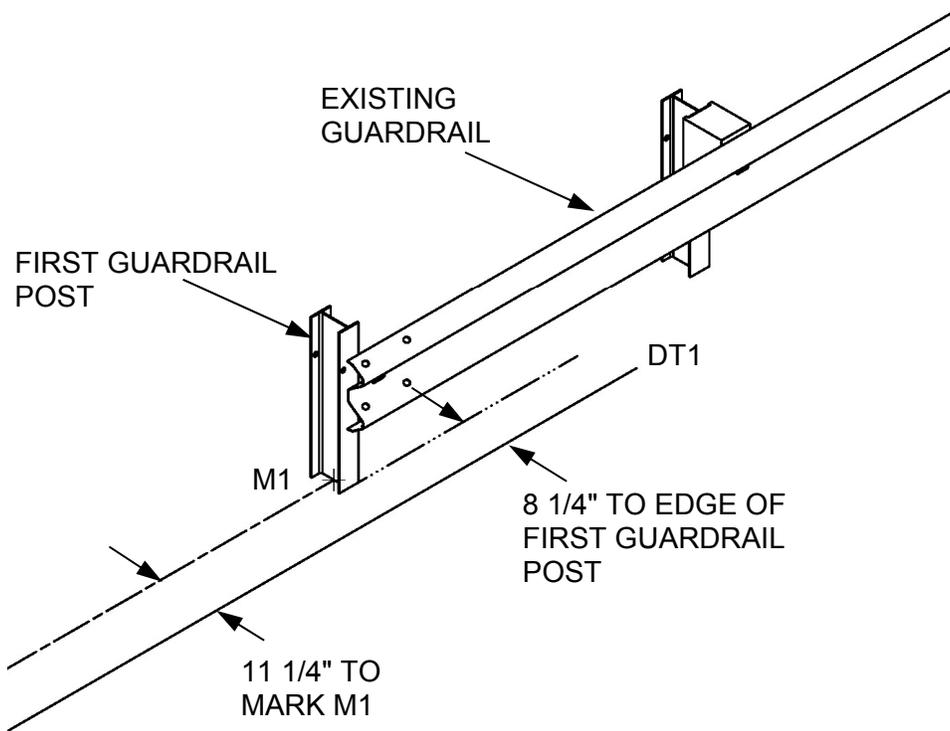

Figure 3 - Determining Post Location
- 1.2 A new guardrail post must be driven into the ground at the end of the guardrail panel. The edge of this new guardrail post must be offset from the datum line DT1 towards the existing guardrail by a distance of 8 1/4" (this offset is needed in order to attach a system spacer between the guardrail post and the guardrail panel). It should be noted that the centerline of this new guardrail post will not align with the existing guardrail posts (Figure 3).
- 1.3 Measure perpendicular from the datum line (DT1) towards the existing guardrail 11 1/4" and make a mark (M1) near the first guardrail post (Figure 3).